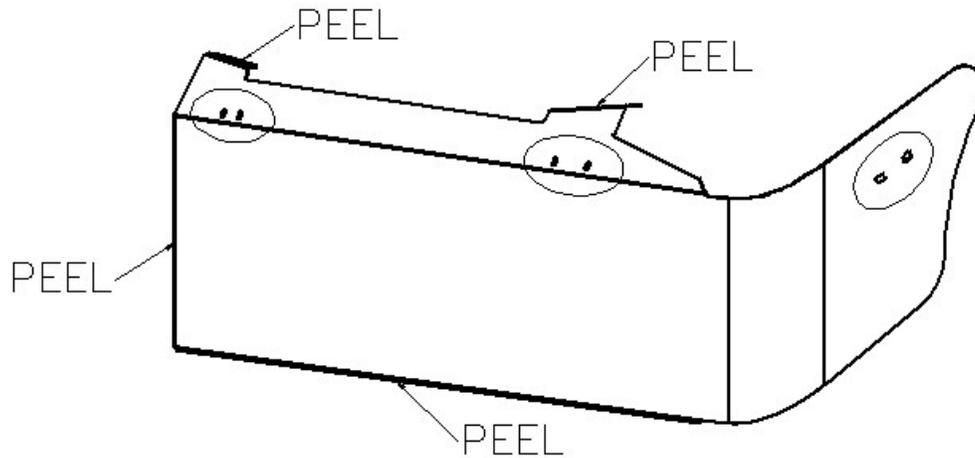

Figure 3: Flanges & Holes to Remove Protective Plastic From (driver side shown)
3. Peel the protective plastic from around the circled bolt holes as well as from the flanges identified in Figure 3.